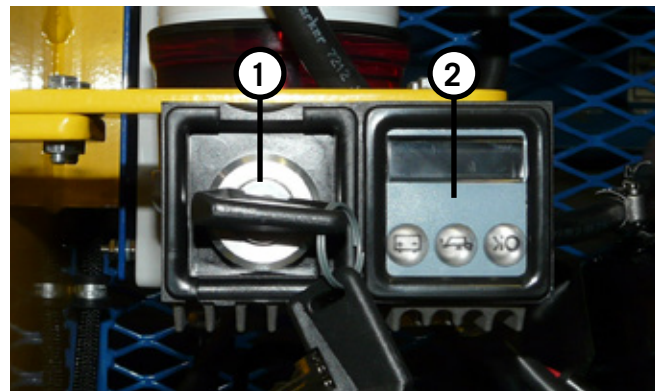

Fig. 1-3
1. If the temperature is 40°F (4°C) or below, push and hold the glow plug button (Fig. 1-3, 1) for 10 seconds. The glow plug indicator light (Fig. 1-3, 2) will illuminate when the glow plug button is pushed.
2. Turn the key (Fig. 1-3, 1) to the right to the START position. Once the engine starts, release the key.
3. If any of the red lights on the switch panel (Fig. 1-3, 2) light up, shut the engine off, determine what the problem is, and repair it before operating lifter.